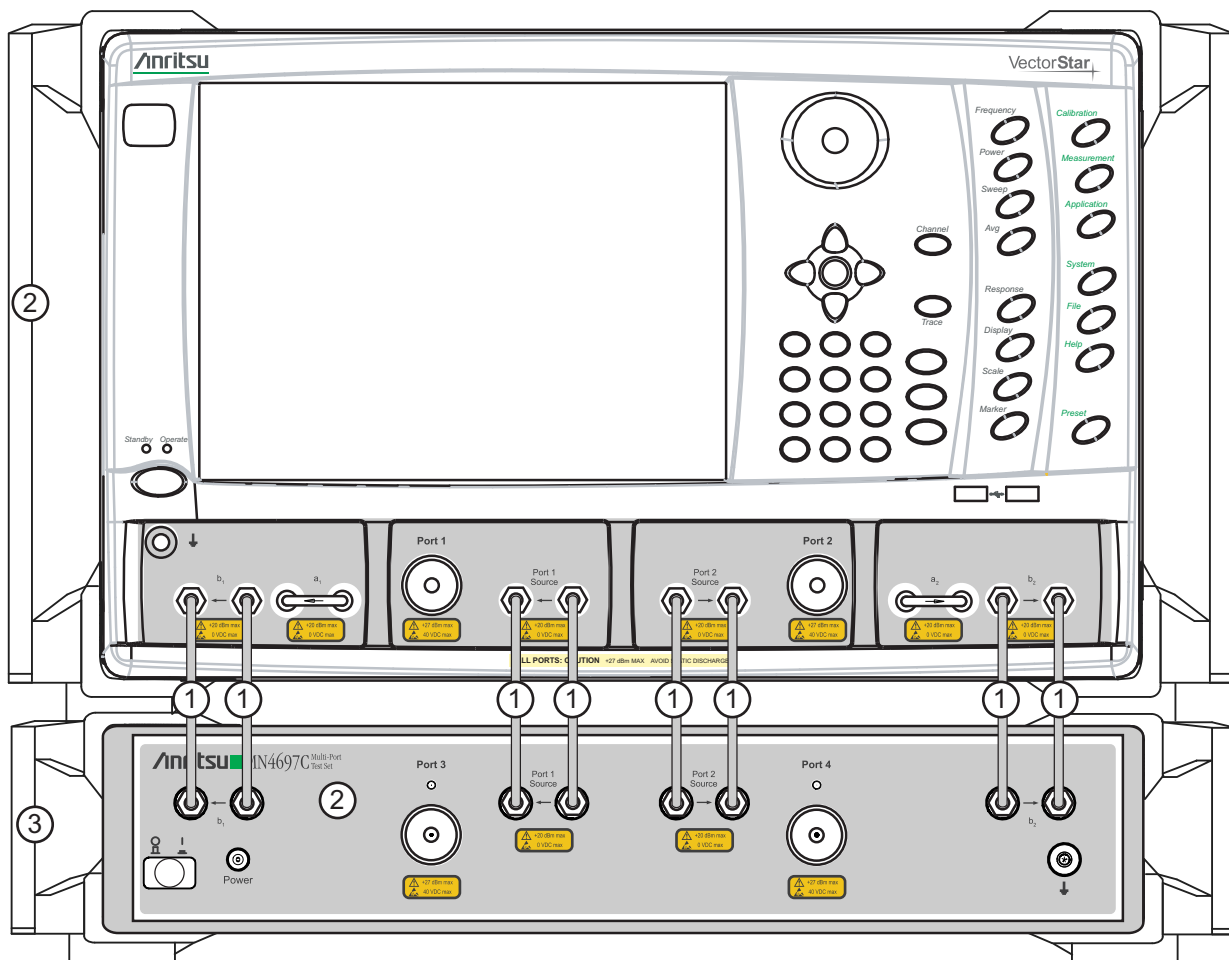
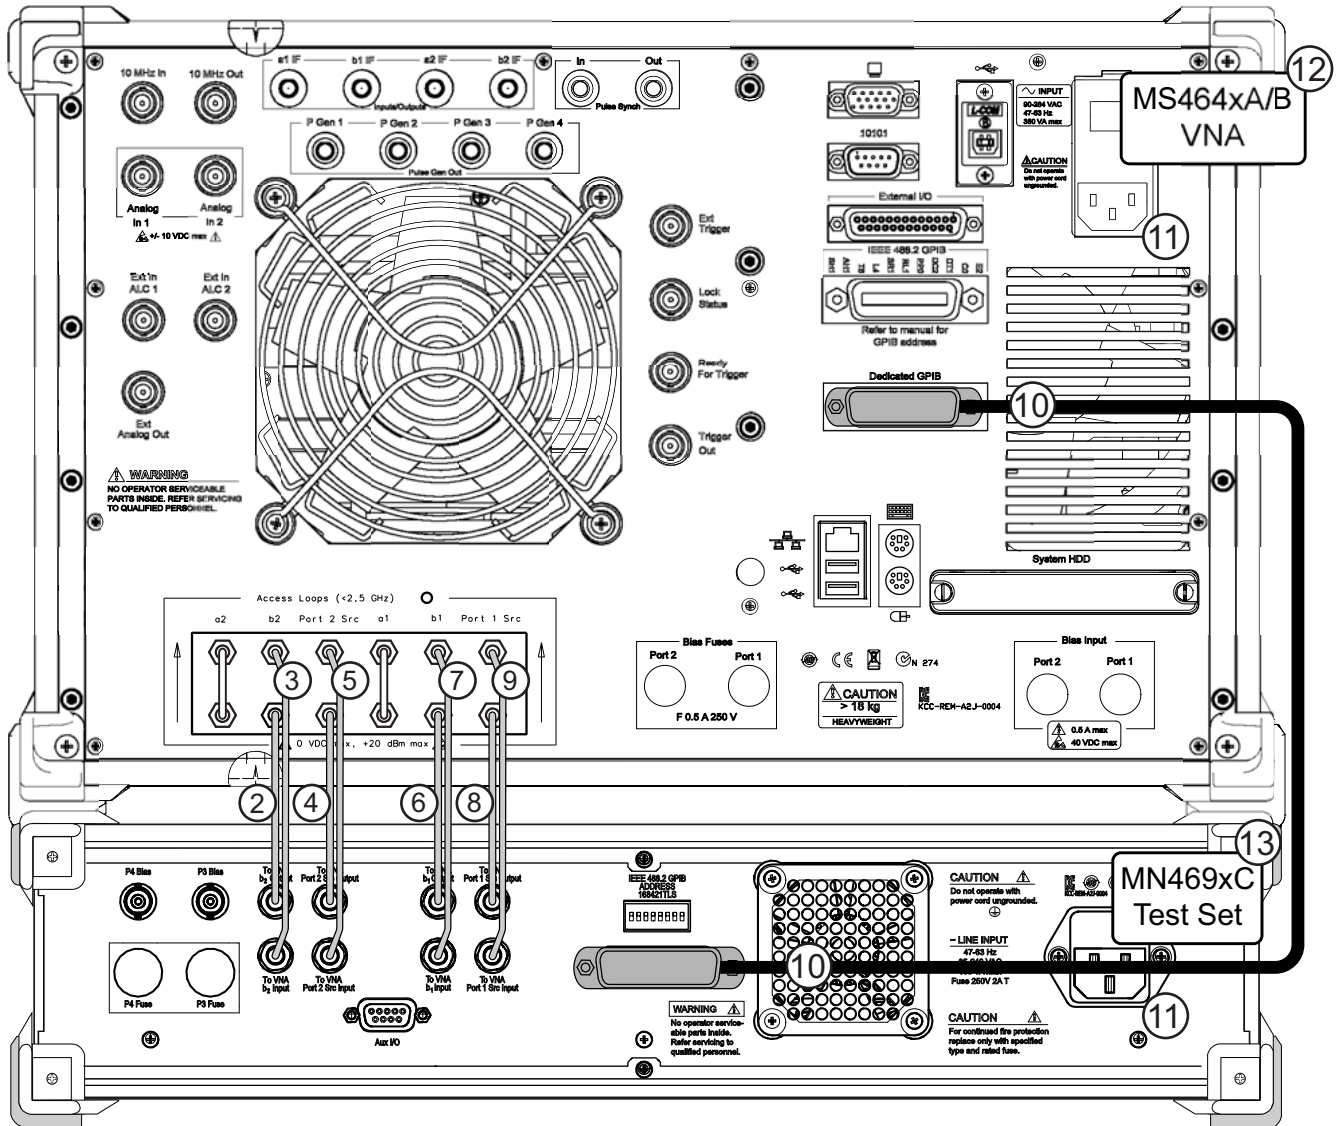

Figure 2-1. Front Panel Connections
Figure 2-2. MS464xA/B VNA and MN469xC Test Set Rear Panel Connections (MS464xB shown)
The figure below shows the front panel connections between the Test Set and VNA. Make the semi-rigid cable connections as shown in Figure 2-1, Figure 2-2, and in Table 2-1.
1. Place the VNA on top of the Test Set as shown in Figure 2-1.
3. Use the eight provided RF (K or V) male-to-male cables, or other semi-rigid or phase stable male-to-male RF cables to make the connections as shown in Figure 2-1 and in Table 2-1.
1. Connect the GPIB cable between the VNA Rear Panel **Dedicated GPIB** connector and the Test Set **IEEE 488.2 GPIB** connector as shown in Figure 2-2.
3. Install the eight semi-rigid cables provided as shown in Figure 2-2 and Table 2-1.